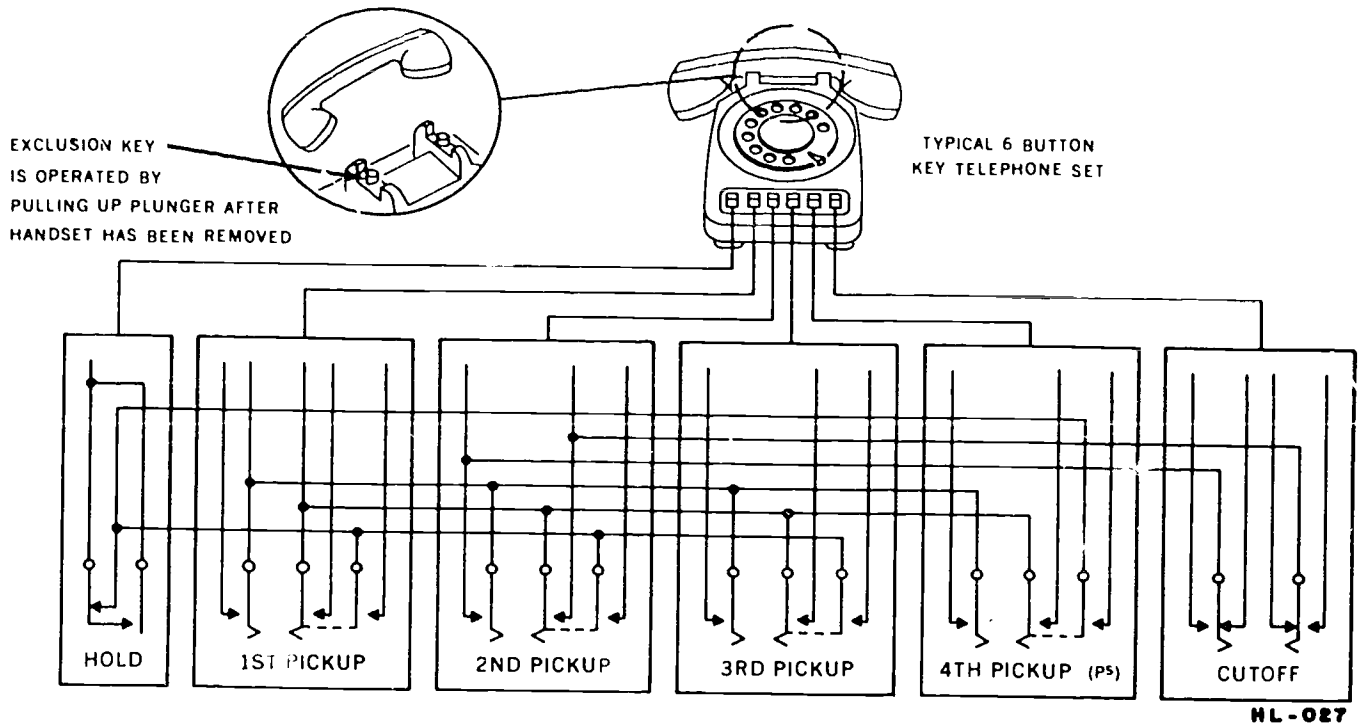

Figure 4-3. Typical key telephone set pushbutton and switch arrangement.
Wiring Diagram. This diagram illustrates the actual position and connection for each piece of equipment. Because of the emphasis on the connection of cables and terminal wiring, it is not readily used when you are trying to understand the operation of a circuit. Figure 4-3 may be considered a partial wiring diagram because it shows the wiring connections between the HOLD, PICKUP, and CUTOFF keys for a key telephone set. Accordingly, one contact for the HOLD key is strapped directly to a contact for each of the PICKUP keys.
2. Identify the PICKUP key that has its contacts strapped to the CUTOFF key contacts (illustrated in text fig. 4-3).